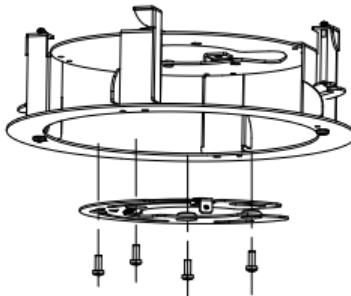

Figure 2-30 Fix the Base Plate to In-ceiling Bracket
3. Align the cable holes of the base plate to the cable holes of the in-ceiling bracket and then fix the base plate onto the bracket with the four screws in the package (supplied), as shown in Figure 2-30.